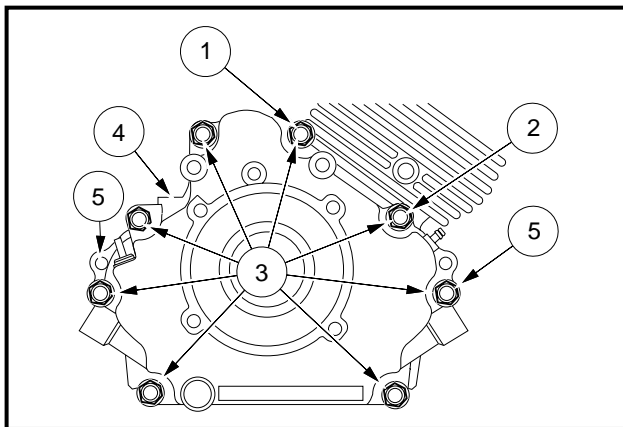

Figure 13-43 Crankcase Cover
2. Remove nuts and clamps at two-ended bolts (1 and 2) **(Figure 13-43, Page 13-22).**
3. Remove eight bolts (3) and remove the crankcase cover (4) **(Figure 13-43, Page 13-22). See following NOTE.**
NOTE: If the crankcase cover sticks, tap lightly with a plastic mallet on alternate sides near the dowel pins (5) **(Figure 13-43, Page 13-22).**